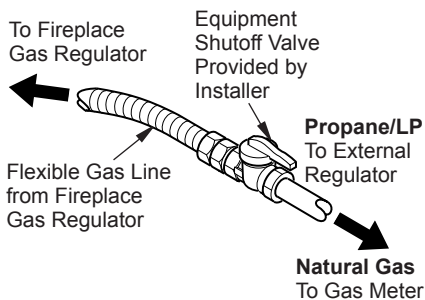

Figure 17 - Attaching Flexible Gas Lines Together
NOTICE: Most building codes do not permit concealed gas connections. A flexible gas line is provided to allow accessibility from the fireplace (see Figure 17). The flexible gas supply line connection to the equipment shutoff valve should be accessible.
4. Attach the flexible gas line to gas supply (see Figure 17). Check tightness of flexible gas line attached to gas regulator of fireplace (see Figure 17).